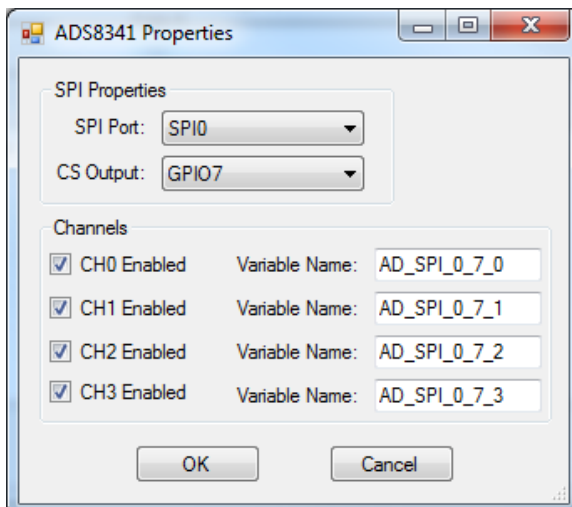

Figure 15-14
Select the SPI port from the drop down menu and select the general purpose output pin (GPO) that will serve as this device's chip select (CS). See Figure 15-14. Any chip select pins reserved for structured text will not be visible in the drop-down menu.